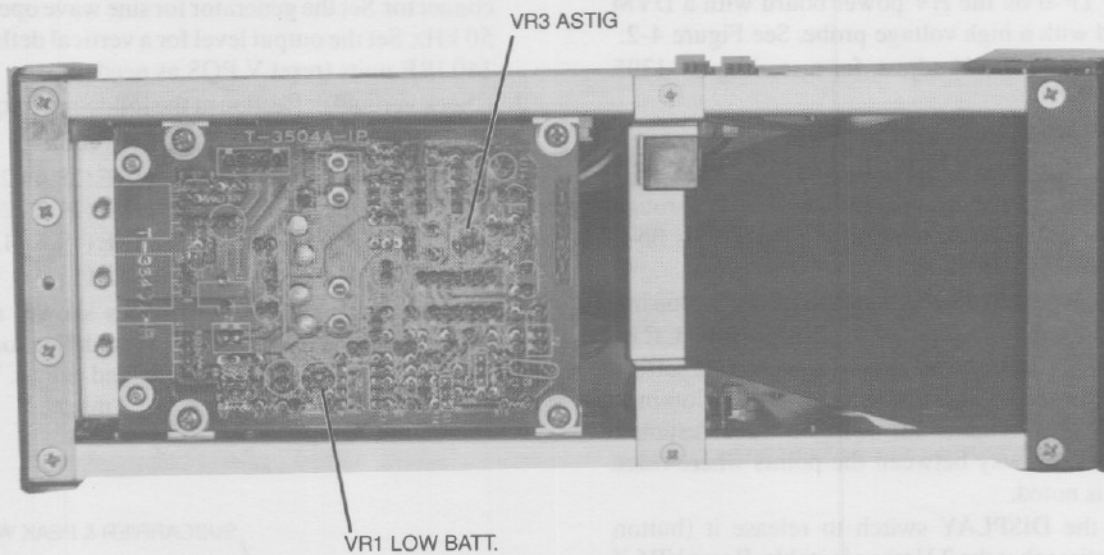

Figure 4-3. Power PC board, T-3540
2. Adjust VR1, Low Battery Warning so that the POWER LED on the front panel flashes. Refer to Figure 4-3.